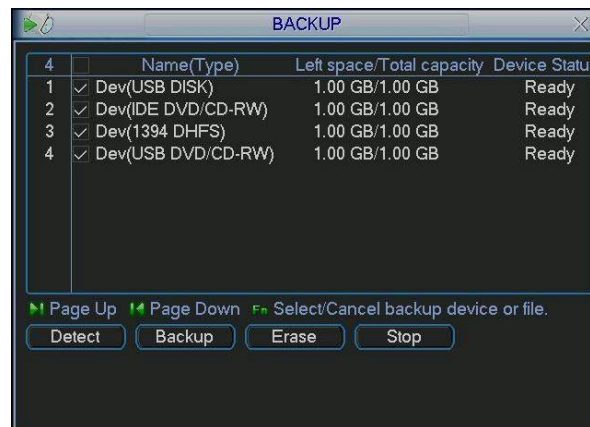

Figure 4-25
- PTZ activation: Here you can set PTZ movement when alarm occurs. You can go to preset, tour or pattern when there is an alarm. Click “select” button to see interface as shown in Figure 4-25.
Click backup button, you can see an interface as shown in Figure 4-25. Here you can view device information.